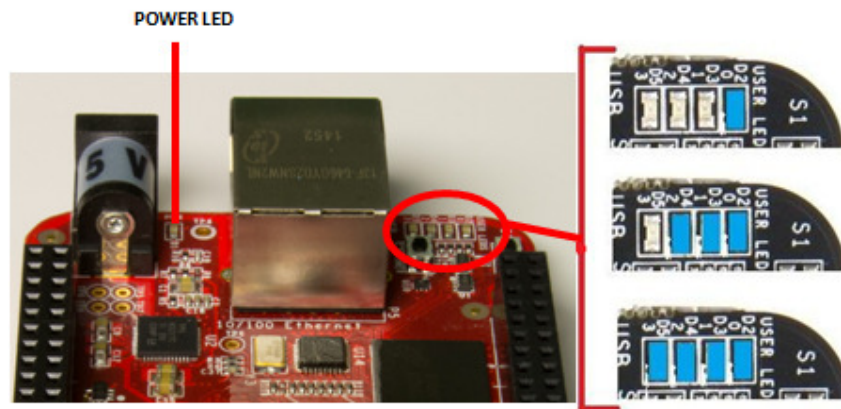

Figure 5 Board Boot Status
4. When the board starts to the booting process started by the process of applying power, the LEDs will come on in sequence as shown in **Figure 5** below. It will take